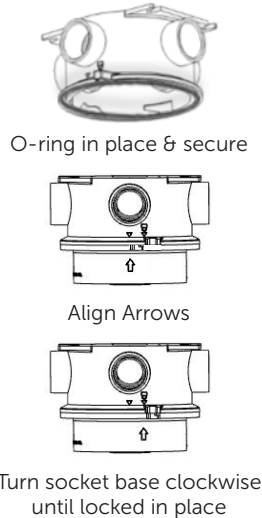

Figure 3 - Attaching Socket Base
7. Verify Q-Hub o-ring is in place and secured in gasket groove of Q-Hub. Figure 3.
8. Position socket base so alignment arrows line up. Alignment arrows are located directly above locking tab on socket base and directly to left of locking hole in Q-Hub. The socket base should seat completely into Q-Hub when lined up as described. Figure 3.
9. Lock socket base in place by turning it clockwise until a click is heard from the socket base locking in place. Verify socket base is locked into place. Figure 3.